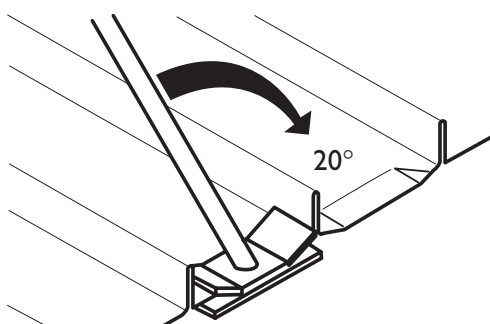

Figure 9.4.8
- Hold the tool hard against the end of the tray and push the handle to form a turn-down of about 20 degrees (Figure 9.4.8).